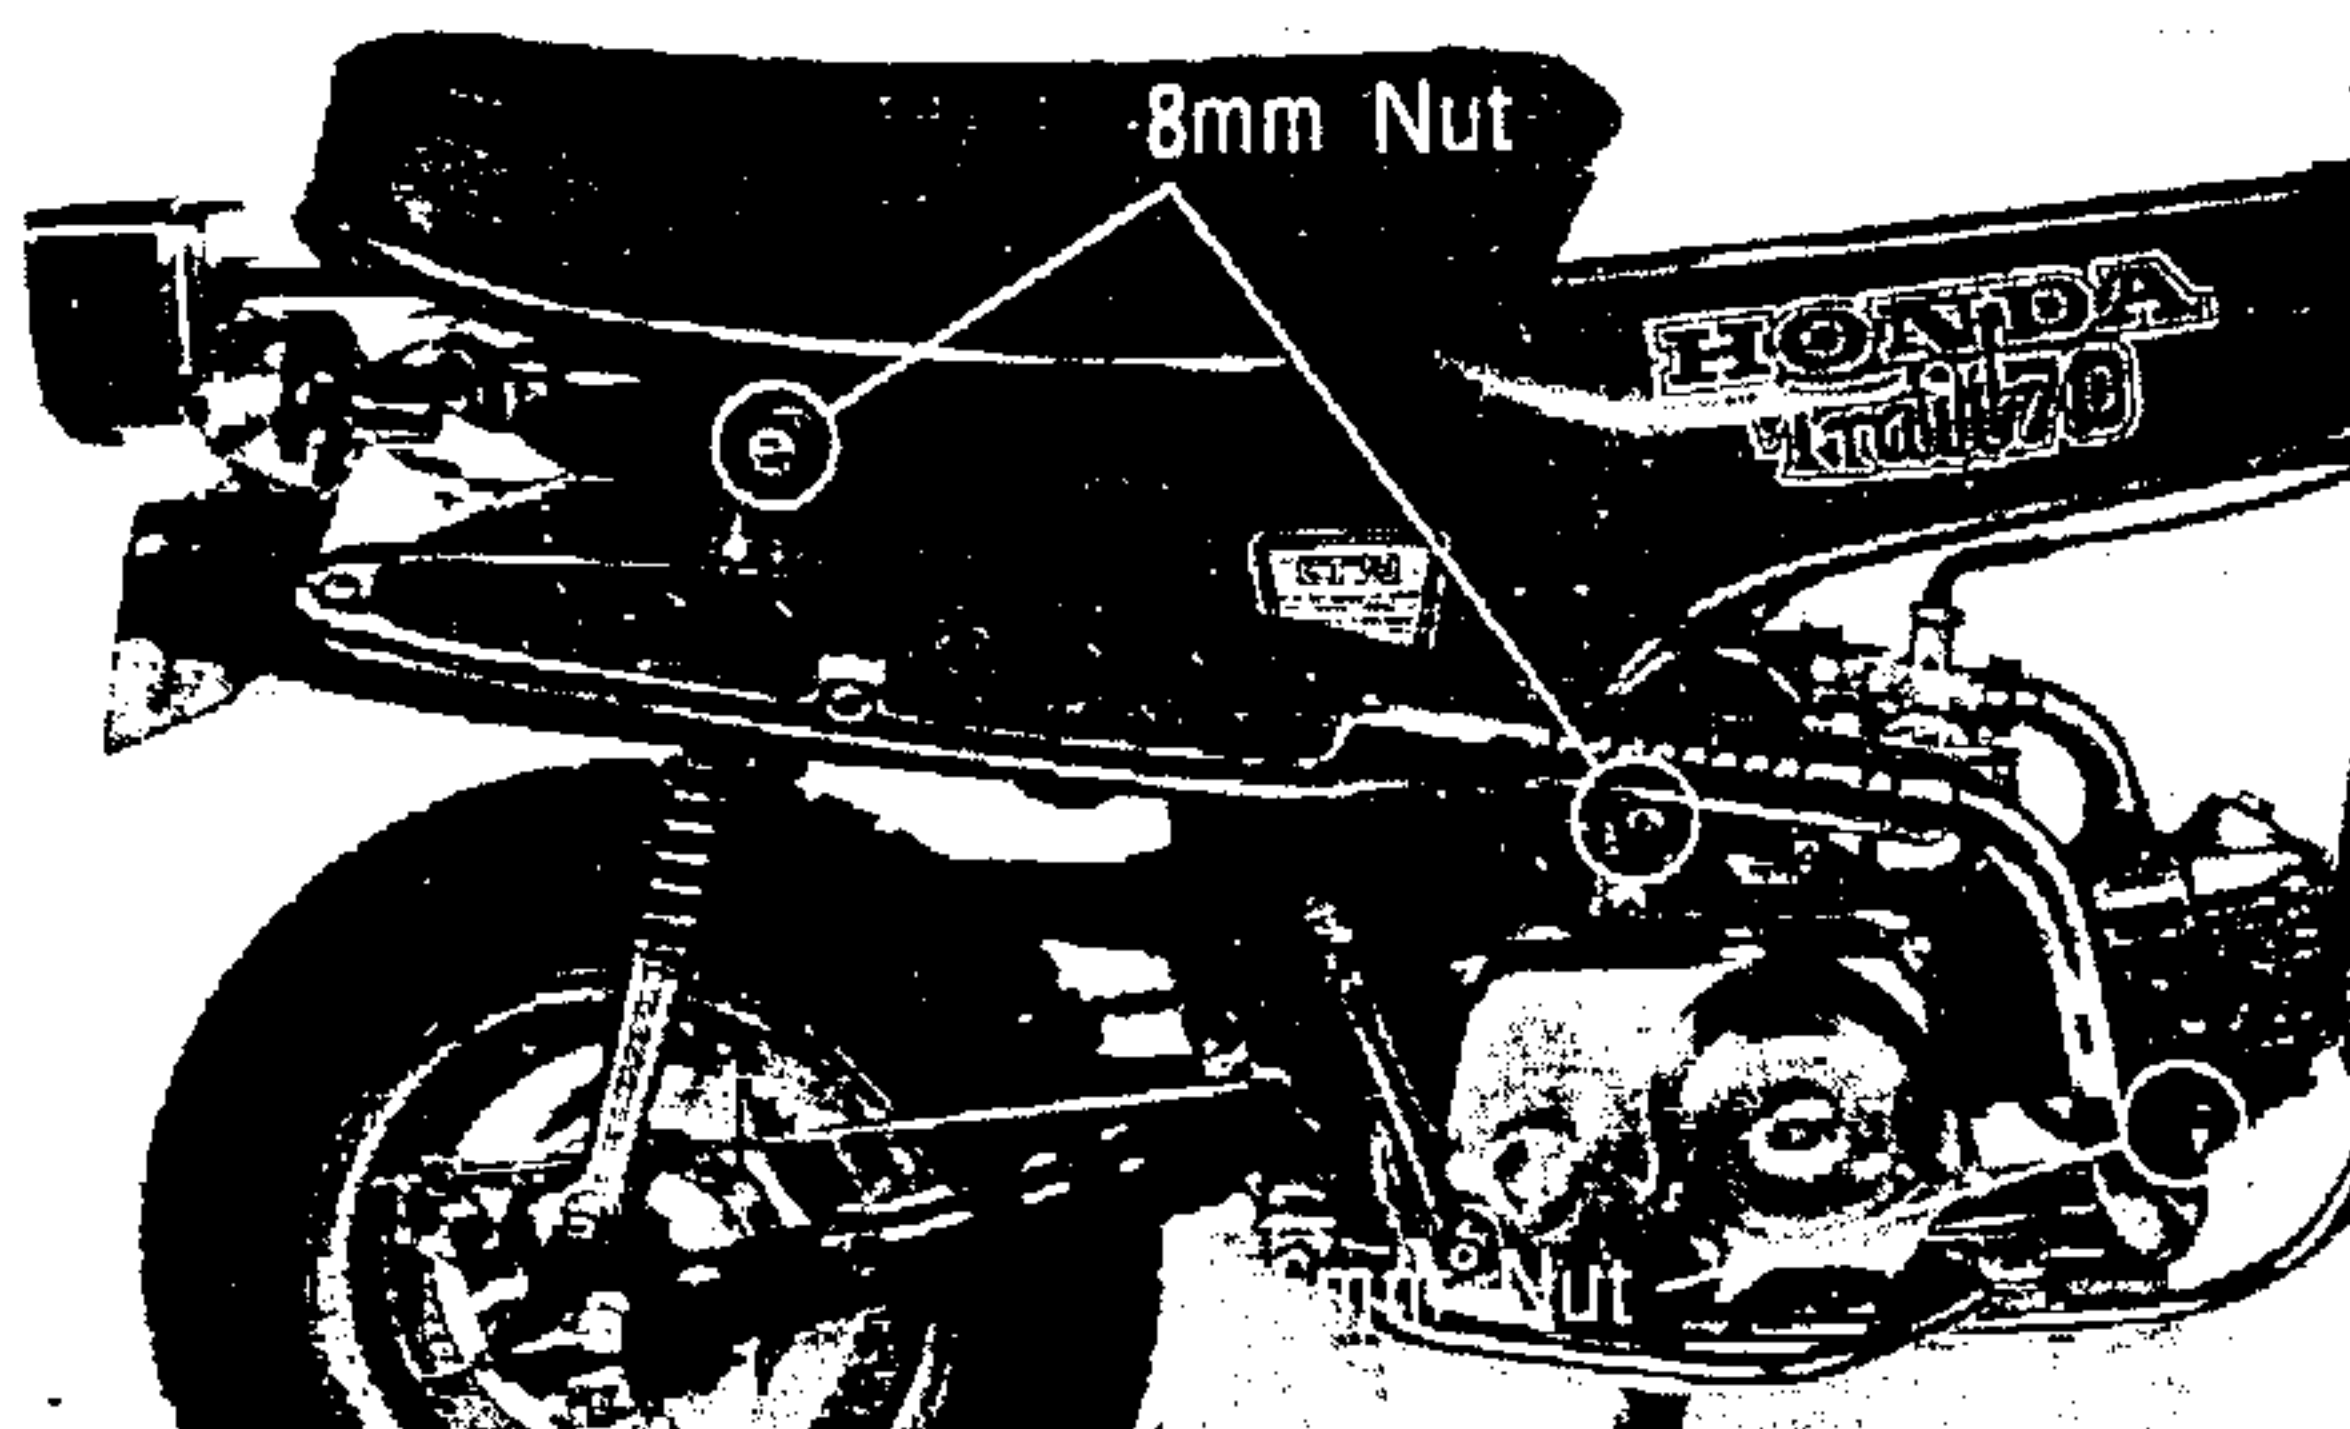

Fig. 2
3. Remove the two 8 mm nuts as shown in Fig. 2 and detach the muffler by removing the two 6 mm fixing nuts.